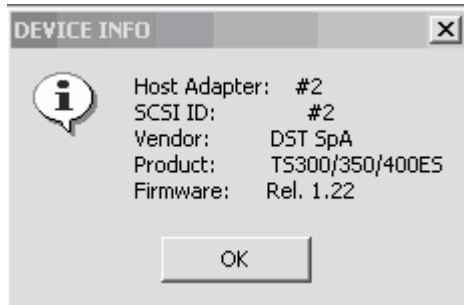
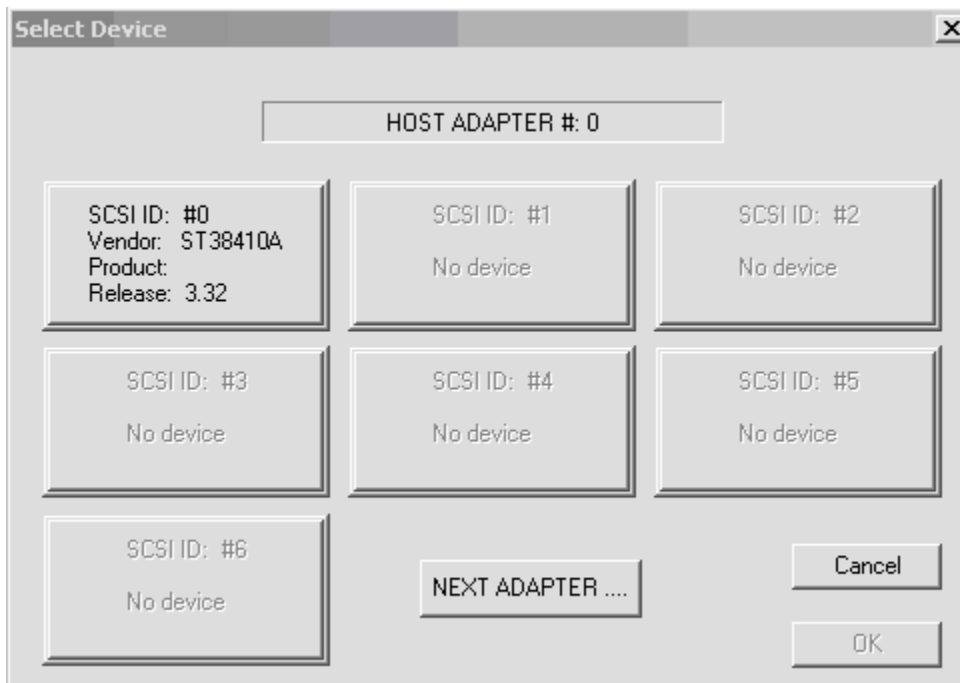

Figure 2
Figure 3
8. If it still does not work, get a copy of the Maintenance Program by contacting Digital Check or ICT. Load it into its own directory and launch the Ts4demo.exe file. The screen that comes up should look like Figure 2 or figure 3 and list the correct SCSI adapter that the scanner is connected to.
9. If you get a screen like Figure 2 or like the screen in Figure 3 that is not showing the correct SCSI adapter, this indicates that the programs are going after the wrong SCSI adapter. This could be caused because their parameter files (Buicscan.ini or Ts4interface.ini) were modified pointing to the wrong adapter or the PC cannot find the correct adapter due to a hardware problem.